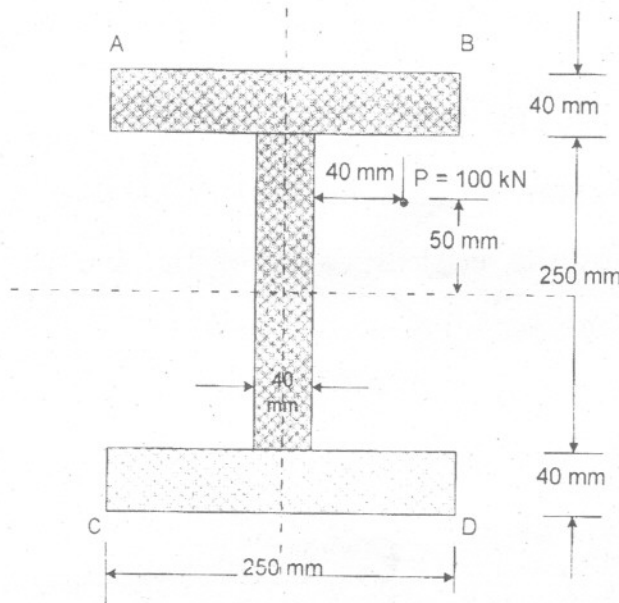

Fig. 10 (b)
- (b) Find total stresses at corner A, B, C and D due to force P as shown in Fig. 10 (b). [8]